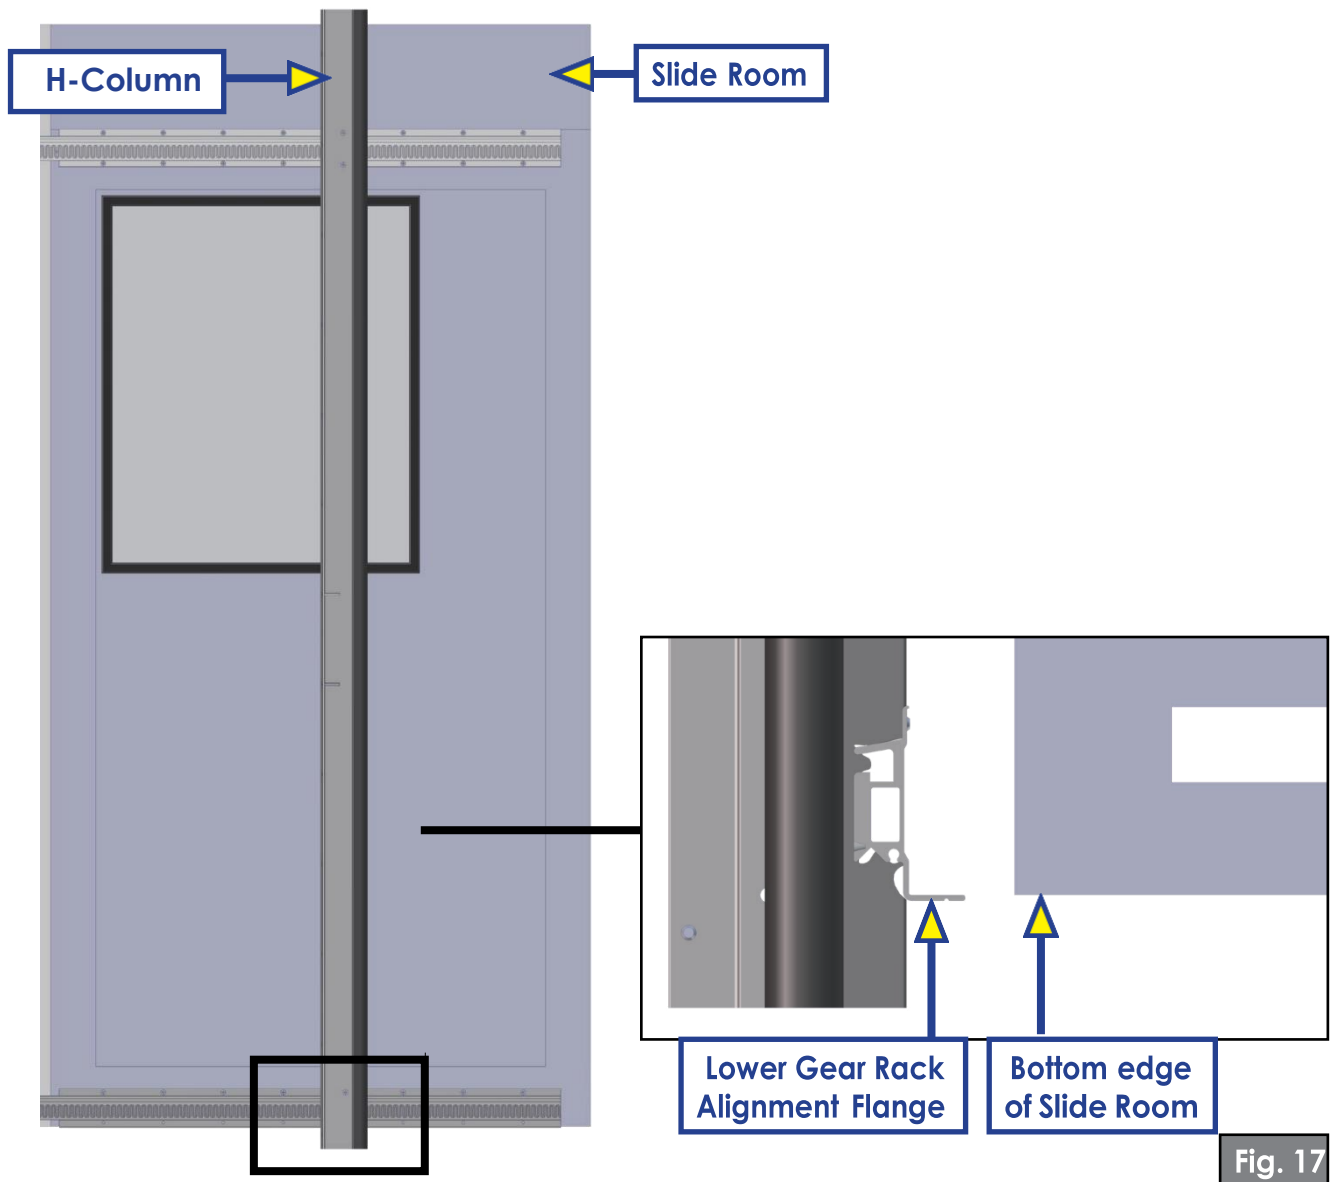

Fig. 17
5. Align the bottom lip (alignment flange) of the lower gear rack with the bottom edge of the slide room (Fig. 17).